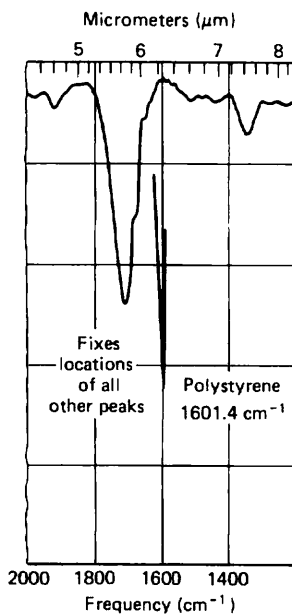

Fig. 162 A calibration peak on an IR spectrum.
4. Now, quickly, start the scan, *let the pen draw just the tip of the calibration peak*, and quickly stop the scan. You don't need to draw more than that (Fig. 162). Just make sure you can pick your calibration peak out of the spectral peaks. If it's too crowded at 1601.4 cm^{-1} , use a different polystyrene peak— 2850.7 or 1028.0 cm^{-1} .